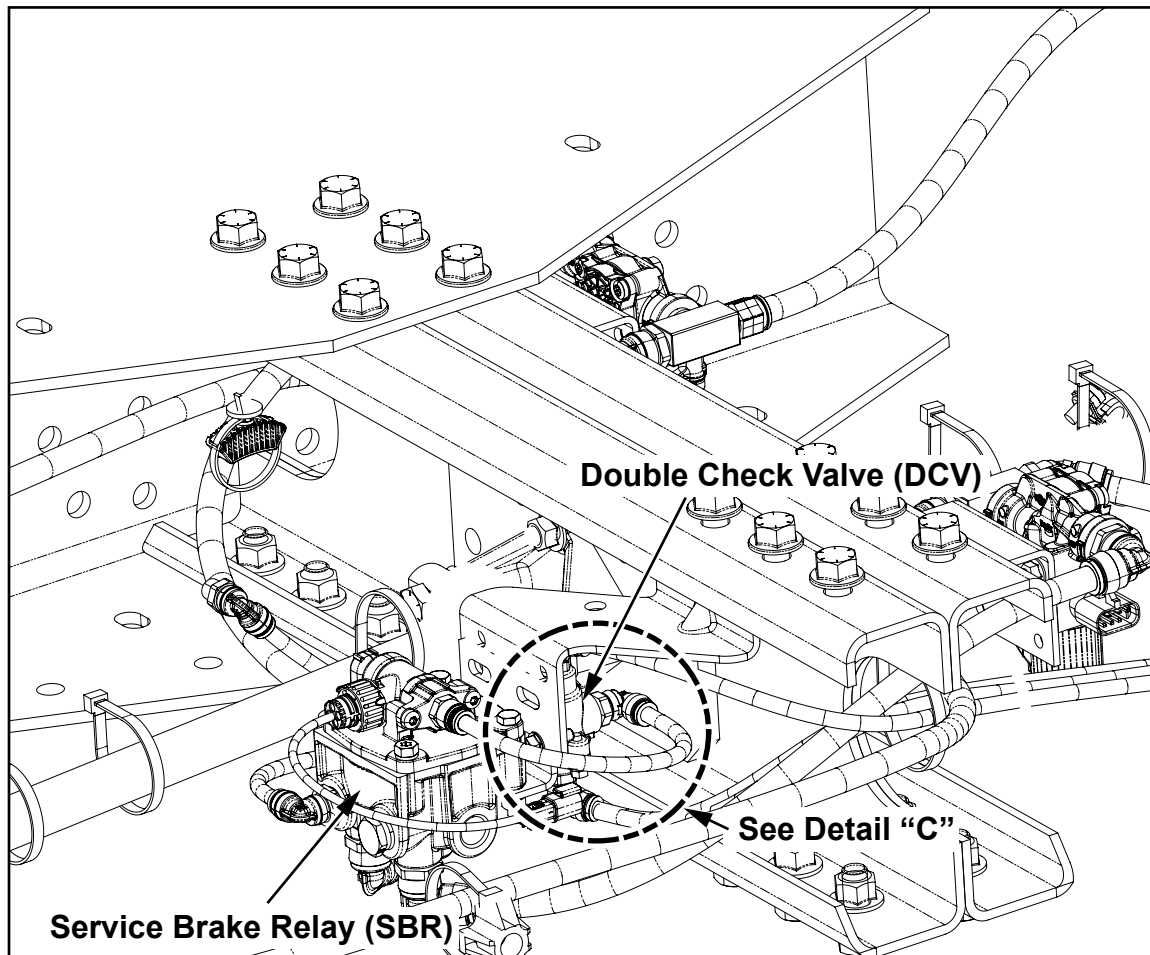

Figure 6
**Note:** Verify the service brake signal line originates at the chassis manifold, port 1. The optional LWB signal line passes directly through the cab, bypassing the chassis manifold (see Figure 6, 7 and Detail "C").